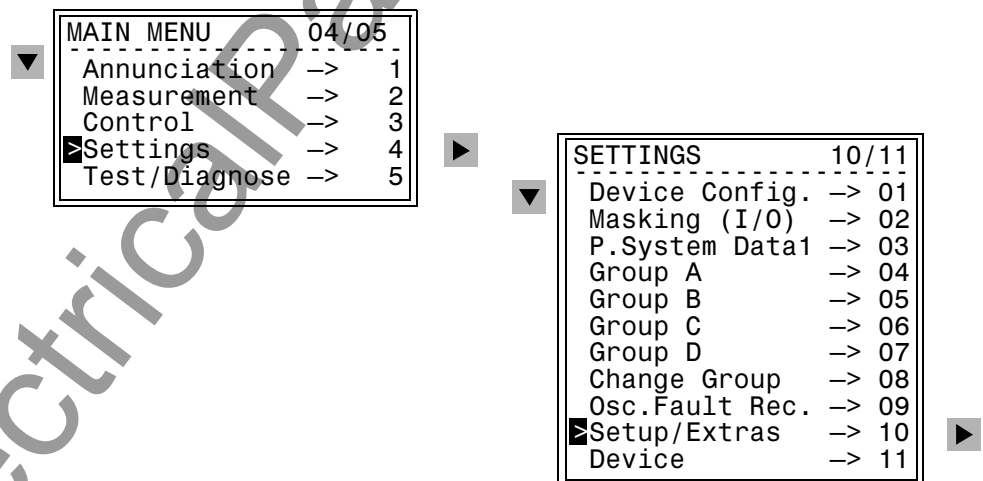

Figure 3-1 Main menu and sub-menu **SETTINGS**
- Using the ▼ key, select the menu item **Settings**, and move to the device settings using the ▶ key. The **SETTINGS** menu appears, as shown in Figure 3-1.